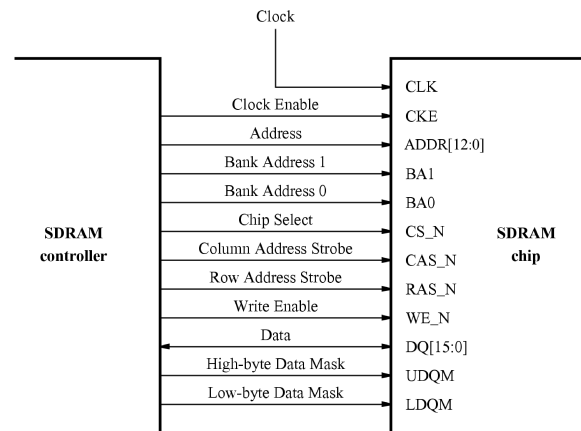

Figure 2. The SDRAM signals.
The SDRAM chip on the DE1-SoC board has a capacity of 512 Mbits (64 Mbytes). Each chip is organized as 8M x 16 bits x 4 banks. The signals needed to communicate with a chip are shown in Figure 2. All of the signals, except the clock, can be provided by the SDRAM Controller that can be generated by using the Qsys tool. The clock signal is provided separately. It has to meet the clock-skew requirements as explained in section 7. Note that some signals are active low, which is denoted by the suffix N.
The Qsys tool generates an HDL file for the system, which can then be instantiated in a VHDL file. The augmented Verilog module generated by the Qsys tool is in the file *nios\_system.v* in the *nios\_system\synthesis* directory of the project. Figure 8 depicts the portion of the code that defines the input and output signals for the module *nios\_system*. As in our initial system that we developed in the introductory tutorial, the 8-bit vector that is the input to the parallel port *Switches* is called *switches\_export*. The 8-bit output vector is called *leds\_export*. The clock and reset signals are called *clk\_clk* and *reset\_reset\_n*, respectively. A new module, called *sdram*, is included. It involves the signals indicated in Figure 2. For example, the address lines are referred to as the **output** vector *sdram\_wire\_addr[12:0]*. The data lines are referred to as the **inout** vector *sdram\_wire\_dq[15:0]*. This is a vector of the **inout** type because the data lines are bidirectional.
A first attempt at creating the new entity is presented in Figure 9. The input and output ports of the entity use the pin names for the 50-MHz clock, *CLOCK\_50*, pushbutton switches, *KEY*, toggle switches, *SW*, and red LEDs, *LEDR*, as used in our original design. They also use the pin names *DRAM\_CLK*, *DRAM\_CKE*, *DRAM\_ADDR*, *DRAM\_BA*, *DRAM\_CS\_N*, *DRAM\_CAS\_N*, *DRAM\_RAS\_N*, *DRAM\_WE\_N*, *DRAM\_DQ*, *DRAM\_UDQM*, and *DRAM\_LDQM*, which correspond to the SDRAM signals indicated in Figure 2. All of these names are those specified in the DE1-SoC User Manual, which allows us to make the pin assignments by importing them from the file called *DE1-SoC.qsf*, which can be found on Altera's DE1-SoC web page at [ftp://ftp.altera.com/up/pub/Altera\\_Material/13.1/Boards/DE1-SoC/DE1-SoC.qsf](ftp://ftp.altera.com/up/pub/Altera_Material/13.1/Boards/DE1-SoC/DE1-SoC.qsf)
--           SDRAM ports correspond to the signals in Figure 2; their names are those